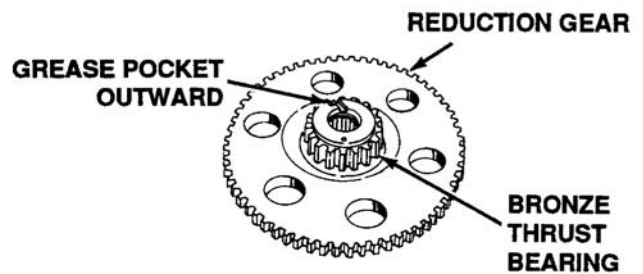

Figure 6-36. Reduction Gear Inspection and Replacement
12. Inspect reduction gear for any damaged teeth. Also inspect needle bearing in the center of gear. Replace if necessary. See Figure 6-36.
The reduction gear also has a grease pocket. Upon reassembly, press bronze thrust bearing on reduction gear dowel pin. It is important that bronze thrust bearing grease pocket FACE OUTWARD as shown in Figure 6-36. The grease pocket is pressed on to reduction gear to insure grease movement. When replacing, make sure that it is installed properly. 14 oz. of Shell Durina #O grease is used in this transaxle.